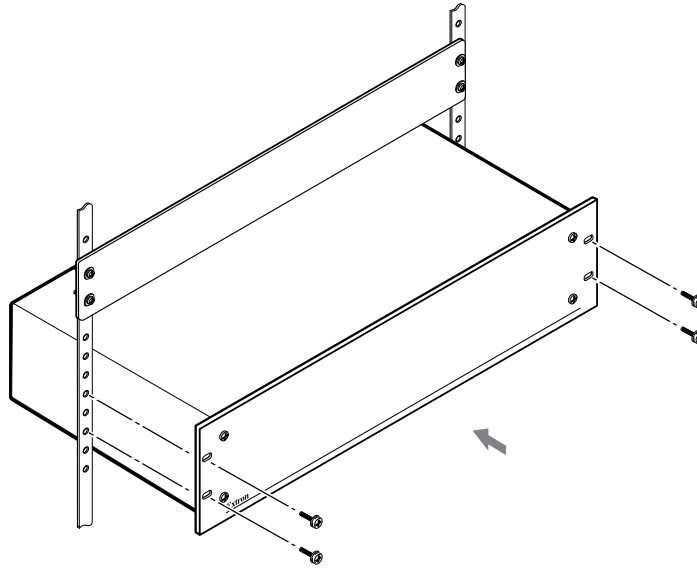

Figure 77. Installing the Switcher in a Rack
1. Insert the unit into the rack, aligning the mounting bracket holes with those in the rack (see figure 77).